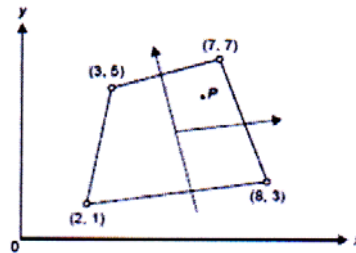

Fig.7
b) Determine the Cartesian coordinate of the point $P(\xi = 0.5, \eta = 0.6)$ shown in Fig. 7. [6]